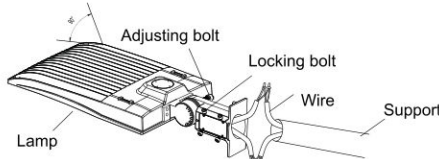

Figure 20
Step 2: Loosen the four bolts on A&D bracket, connect the wires correctly, and pull the wires into the poles.(Figure 20)
Step 3: Place the bracket into the pole and lock the four bolts. (Figure 20)
Notice: Adjustable angle is 0-90°(Figure 20)